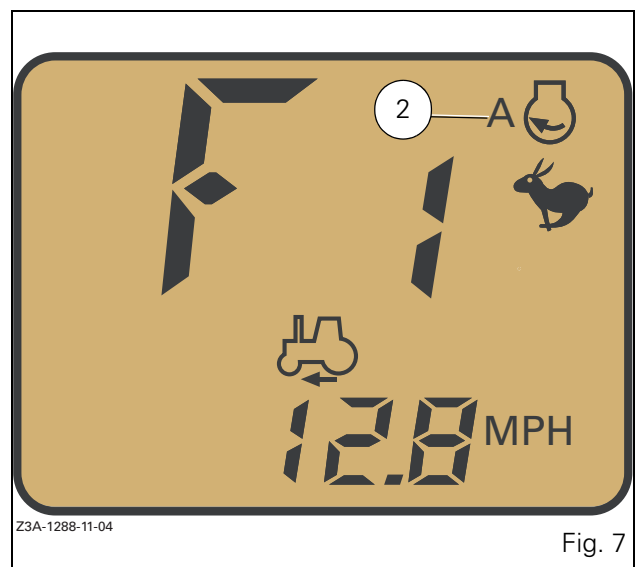

Fig. 7
- The engine symbol appears on the digital display, along with the letter A or B, indicating the active memorised engine rpm (example: memorised rpm A (2 Fig. 7).